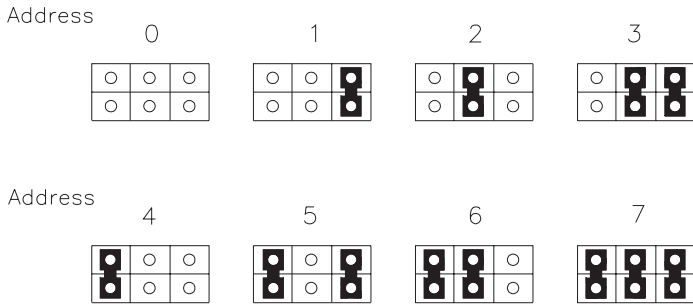

Figure 2 Jumper settings for the tape drive's SCSI ID
2. Remove the jumpers from the jumper block to obtain the correct address for your configuration. Figure 2 shows how to position the jumpers for addresses 0 through 7.
4. Change the settings on the remote switch to the correct address for your configuration. The switch settings should emulate the jumper positions shown in Figure 2.